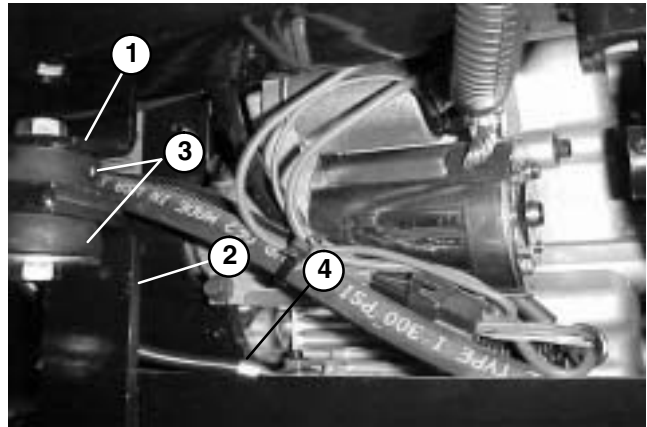

Figure 11
C. Remove flange head screw and nut under starter motor that secures engine and negative (–) cable to engine mounting plate (Fig. 11).
B. Secure two (2) red wires and positive (+) battery cable to starter solenoid stud with nut.
D. From below, install flange head screw and nut under starter motor that secures engine and negative (–) cable (Fig. 11).